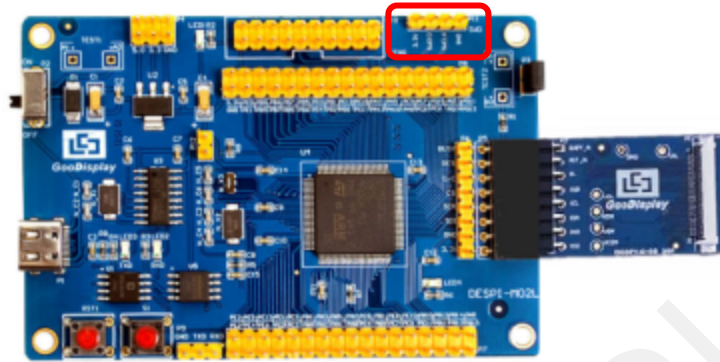

Figure 16:SWD interface
1) As shown in figure 16, DESPI-M02L has a 4-wire SWD interface, which can be connected to the simulator interface by 4 wires and then connect the simulator to the computer.